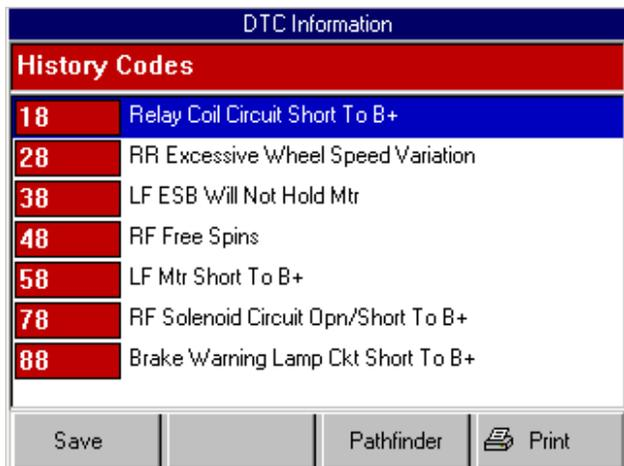

Figure 5.6: DTC Information Screen
- If the vehicle's ECU stores only current codes, the DTC Information screen appears (see Figure 5.6). Go to Step 4.